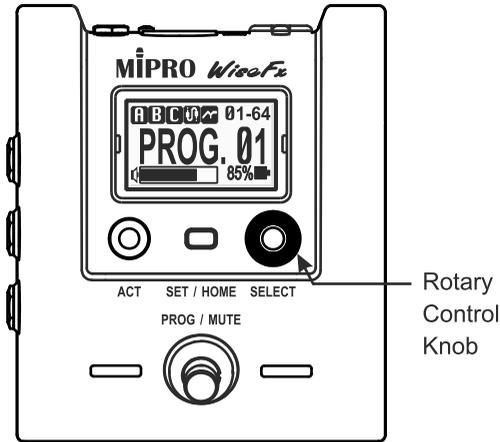
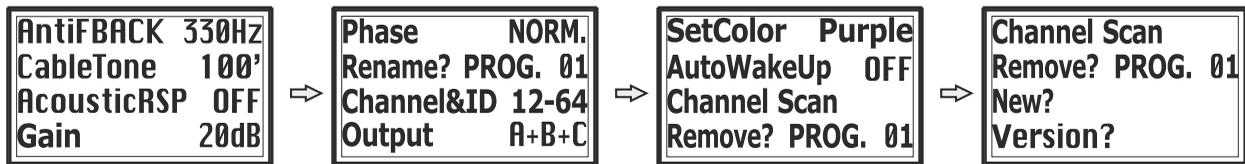

Fig. 10
Fig. 11
(A) A navigation control for programming selection, Fig. 10:
- (1) At the primary screen, turn right or left to select pre-stored programs.
- (2) At the primary screen, press SET / HOME **4** to enter function setting screen.
- (3) At the primary screen, turn the knob to choose a selection, press again to activate the current selection. Rotate to choose a new selection, and press the knob to store. Press SET / HOME button again to return to primary screen.
(B) Function Setting Sequence Screen, Fig. 11: